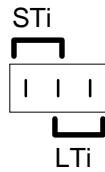

Fig. 3.2: Pattern for the Time Range setting of the i-th channel
The position of the jumpers can also be deducted from the solderings side of the board: the layout of the board contains a printed pattern with indications on Short Time (ST) or Long Time (LT) setting for the i-th channel (see fig. 3.2). The jumper has to short circuit the middle pin with the desired external pin in the figure 3.2.